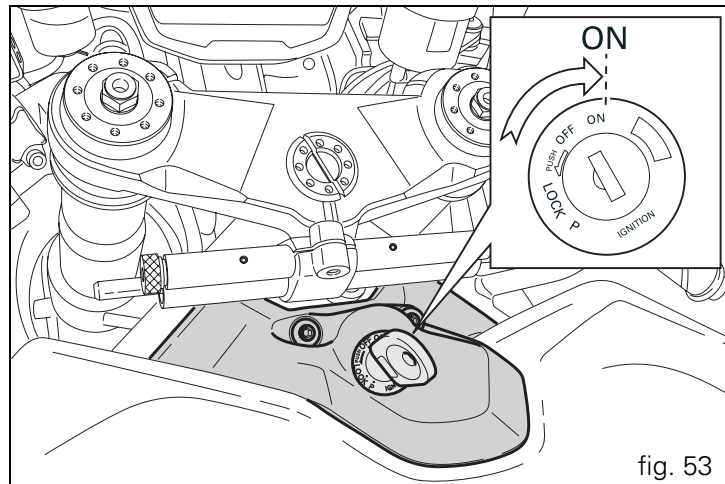

fig. 53
1) Turn the ignition key to **ON** (fig. 53). Check that both the green light N and the red light  on the instrument panel come on.